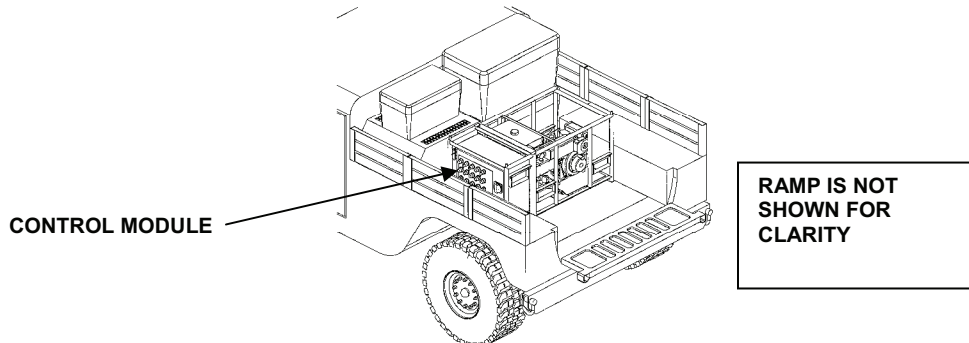

Figure 12. Offloading Control Module.
15. Offload the control module from vehicle. See Figure 12.